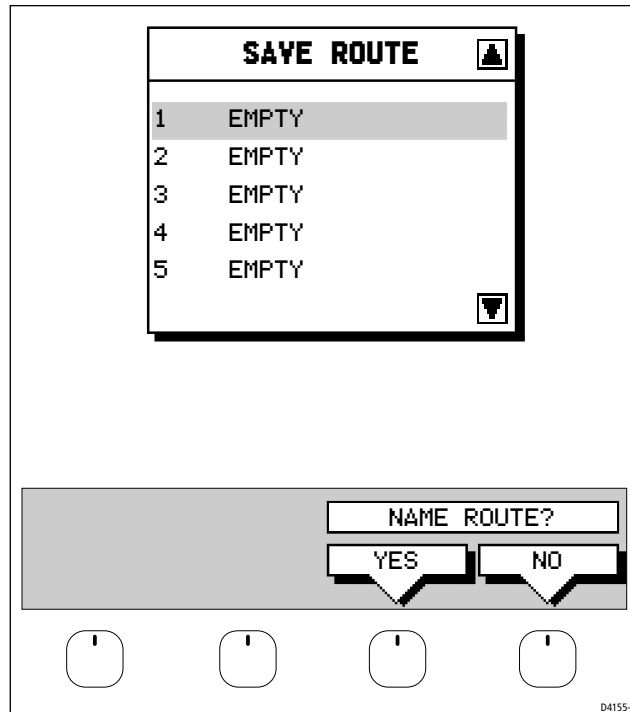

Figure 5-6: Save Route Window
2. Press the SAVE ROUTE soft key. The save route pop-up and the NAME ROUTE soft keys are displayed as illustrated in *Figure 5-6*.